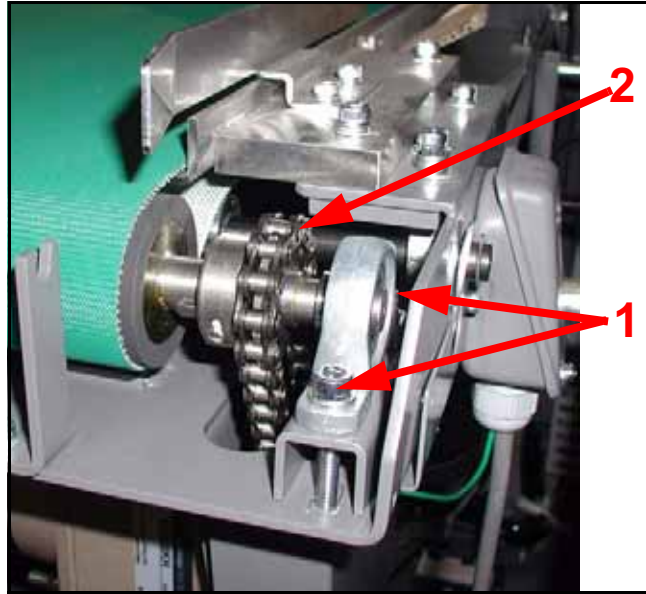

Figure 7-8. Right Pillow Block Screws
- 6 Loosen but do not remove right pillow block screws (1 in Figure 7-8).
- 7 Remove master link from chain (2).
- 8 Remove pillow block screws (1).